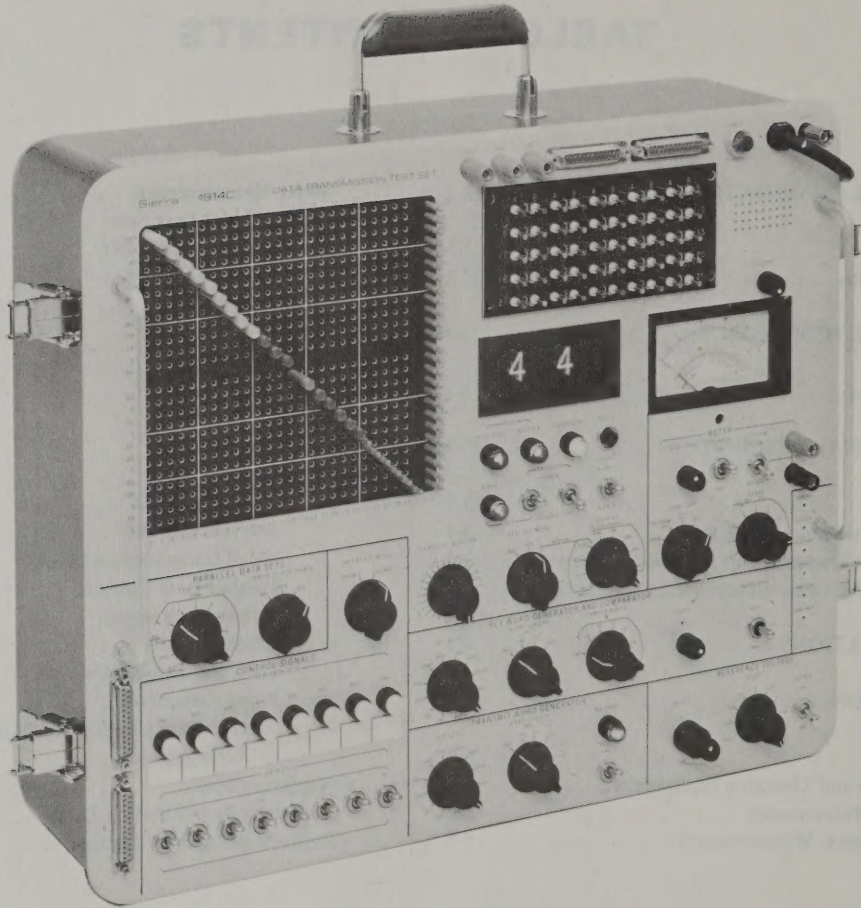

Figure 1-1. Sierra 1914C Data Transmission Test Set
**1.01** This manual contains information pertinent to the operation of Sierra 1914C Data Transmission Test Set (Figure 1-1). Included are physical and functional descriptions, operating instructions, and field-level maintenance instructions. Complete maintenance instructions, schematic diagrams, and a parts list are contained in Sierra 1914C Data Transmission Test Set Maintenance Supplement SMS-1914C. Both the operation and maintenance manuals are available to maintenance, calibration, and repair facilities by contacting Sierra Electronic Operation.